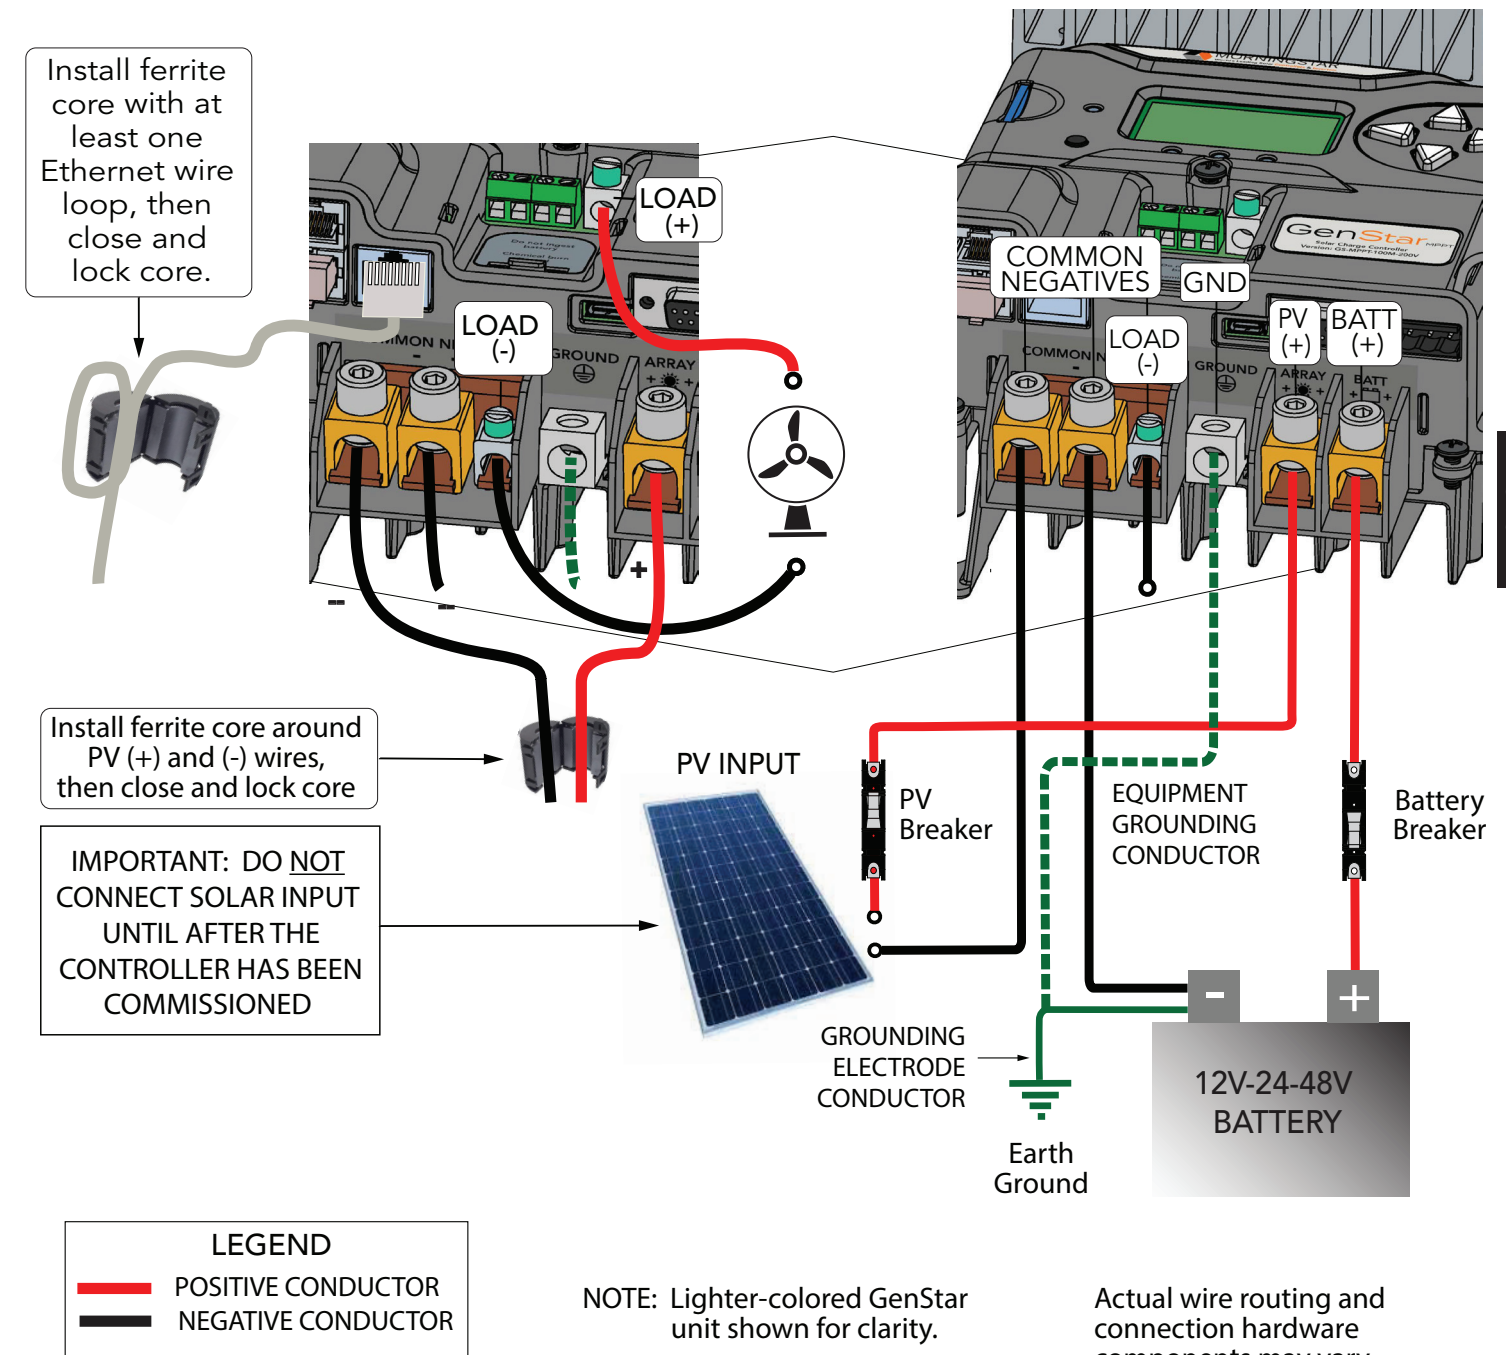

Figure 3-4. GenStar MPPT Power Wiring
3.4.3 Grounding and Ground Fault Interruption - refer to Figure 3-4 above
3.4.4 BATTERY CONNECTIONS - refer to Figure 3-4 above
3.4.5 SOLAR CONNECTIONS - refer to Figure 3-4 above
STEP 4: Fit and connect a negative wire between the GenStar PV (-) input terminal and the PV (-) busbar or combiner terminal. **DO NOT CONNECT THE THE ARRAY STRING (-) WIRE(S) TO THE COMBINER BOX AT THIS TIME.** This can be achieved by not connecting the PV (-) MC-4 connectors or the PV (-) wire(s) to the transition box, combiner box or the PV (-) Disconnect.
3.4.6 LOAD CONNECTIONS - refer to Figure 3-4 above